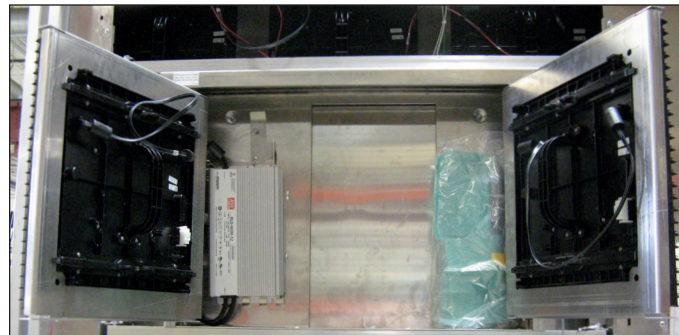
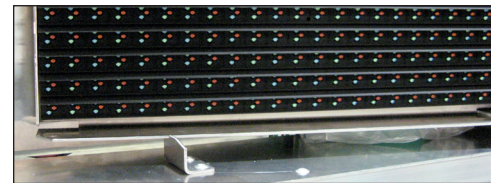

Figure 2: Spare Parts in Spare Parts Rack
Figure 4: Clip Holding Spare Parts Door Closed
Every Daktronics digital billboard is shipped with spare parts that include commonly replaced components. The table lists some of the components that may be included in the spare parts rack. Refer to **Figure 2**. Refer to the spare parts inventory list contained in the bag in the spare parts rack for a list of the parts. Contact the Region Service Specialist (RSS) to order additional spare parts.
3. Rotate modules out to access the spare parts behind them. Refer to **Figure 2** and **Figure 4**.